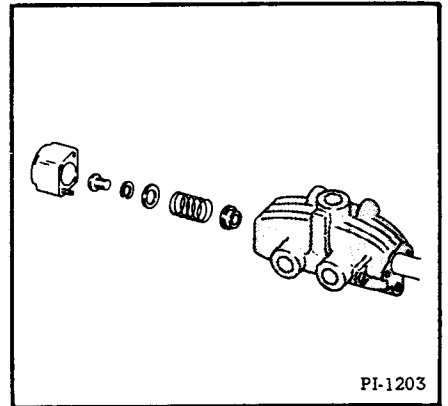
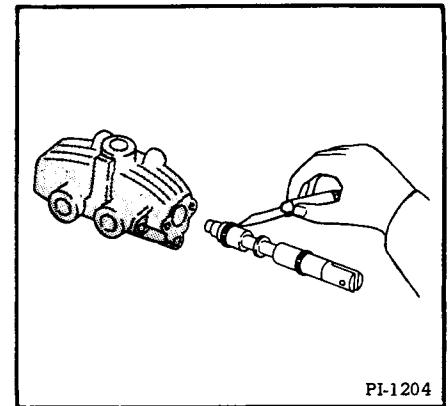

Fig. 20 Removing Internal Parts
Fig. 21 Removing Seals From Grooves
- (1) Remove the four cap screws from the valve bonnet and remove it (Fig. 20).
- (2) Remove the round head screw, lock washer, flat washer, spring and stop collar from the end of the spool (Fig. 20).
- (3) Pull the valve spool out of the housing.
- (4) Observe the positioning of the "U" cup seals for proper replacement. Remove the worn seals by inserting the point of a small knife and prying upward (Fig. 21). Extreme caution should be taken when removing the seals to prevent damage to the spool.
- (5) Replace the spool in the housing without any seals on it. Push the spool into the housing until the seal groove is completely exposed at the bonnet end of the valve.